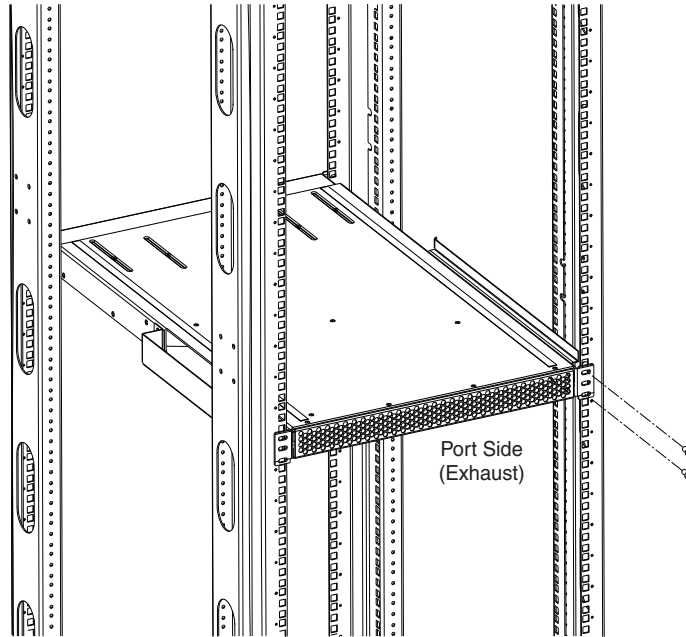

Figure 40 Shelf installed in cabinet
- b. Secure the shelf to the cabinet with eight 10-32 screws with washers (E in Figure 38 on page 195), two screws in each corner of the shelf (see Figure 40 on page 198). Tighten screws according to specifications under “Torque requirements” on page 195.